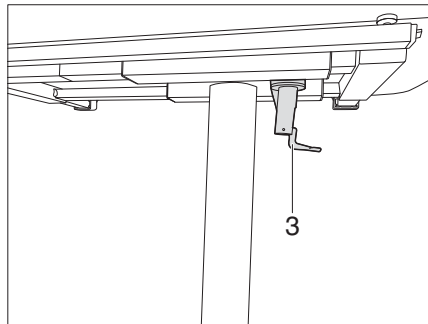

Fig. 106 Lock the folding table
- Swivel the catch lever (Fig. 106,3) to the right. The lift-off table is locked and can no longer be moved.